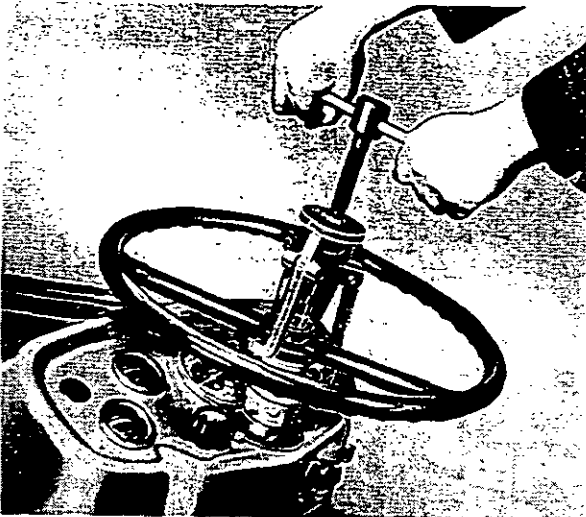

FIG. 3
1. Fig. 3. Remove the nut and washer securing the steering wheel and pull off the wheel using the special tool MF 268 as shown. Remove the key.